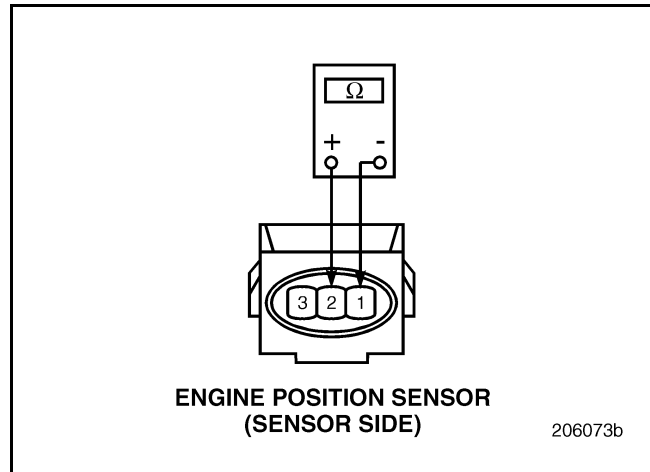

Figure 389
2. Disconnect the Engine Position (EP) Sensor harness connector.
3. Measure the resistance between sensor terminals 1 and 2 (see Figure 389).